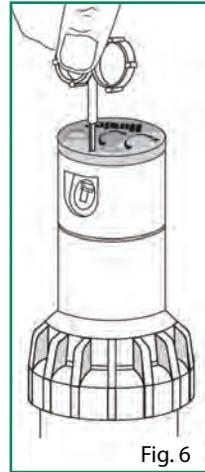

Fig. 6
Insert the steel hex end of the Hunter® wrench into the radius adjustment screw (Fig. 6). Turn the screw clockwise (into the stream of water) to decrease the radius, or counterclockwise to increase the radius. Radius can be reduced up to 25%.
2. Using the hex key of the Hunter® wrench, turn the radius adjustment screw (Fig. 6) counterclockwise to be sure it is not blocking the nozzle socket opening. If a nozzle is already installed, it can be removed by backing out the adjustment screw and turning on the water, or by pulling outward on the nozzle "ears" with a pair of needle-nosed pliers.